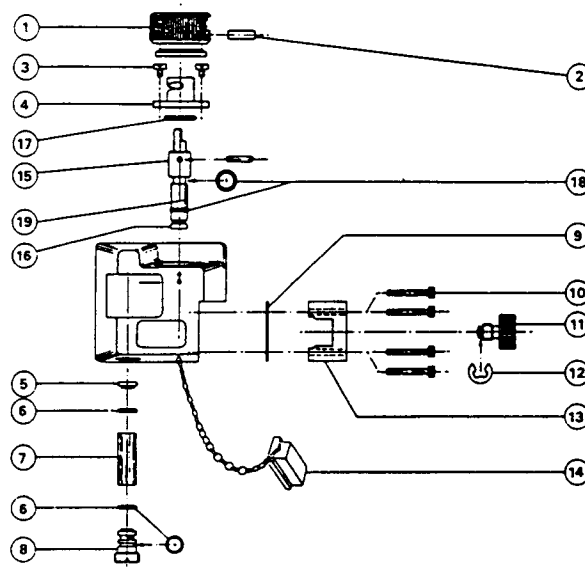

Fig. 6 Keyed Filler
4.7 Filler and Level Indicator (Keyed Filler) (Fig. 6)
5.6 Keyed Filler (Fig. 6)